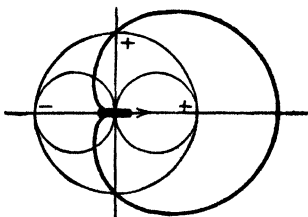

FIG. 6-7.—Unilateral characteristic.
*Ans.* A cardioid figure as shown in Fig. 6-7, the heavy-line curve being the cardioid.